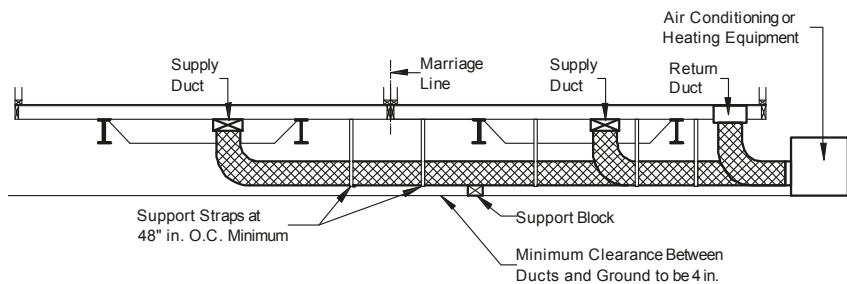

Figure 88. Ducts connecting exterior heating and/or cooling equipment to the home
2. **Install ducts.** Install the appropriate supply and return ducts (not provided) between the remote unit and the home (**Figure 88**) making connections according to the instructions for crossover ducts in **Crossover Connections** (p. 49).
Prepare the whole-house ventilation system according to the ventilation system manufacturer's instructions. Confirm that any fresh air intake ducts extend to the exterior and do not draw air from the crawlspace under the home. Do not allow any fresh air ventilation intake ducts to become kinked or restricted, forming a trap (**Figure 88**).